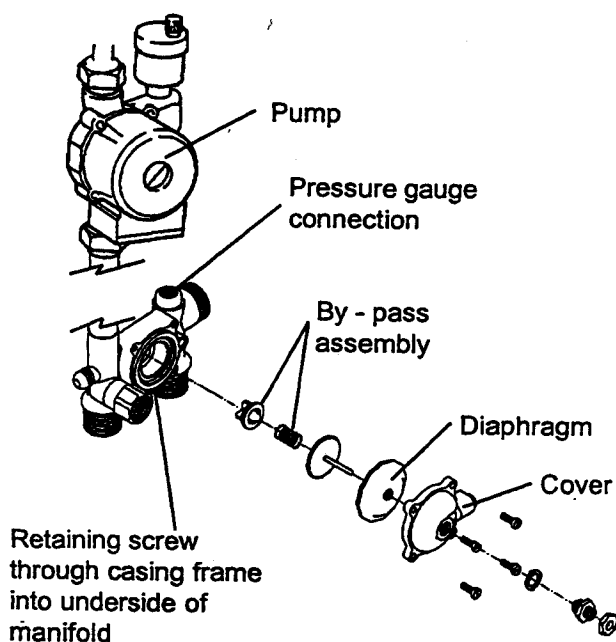

Fig. 33
8.15.2 Refer to fig. 33 for location of components.
- 8.18.3 Trace capillary from back of gauge to connecting point on heating manifold (fig. 33).